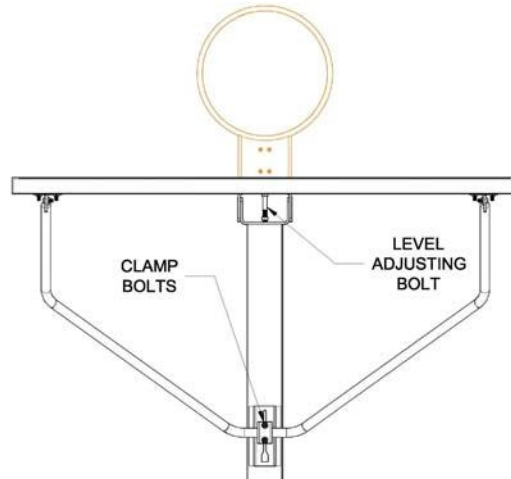

Figure 7
19. To level the backboard in the vertical plane, loosen the two carriage bolts at the board brace clamp on top of the boom. Refer to Figure 7. Using a $\frac{3}{4}$ " wrench, adjust the leveling bolt in the board mounting bracket until the backboard is plumb. Tighten the locking nuts on the leveling bolt. Tighten the two carriage bolts at the brace clamp securely.